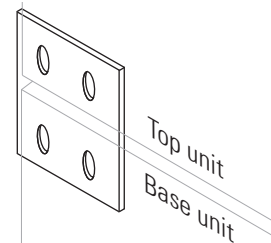

Figure 1-5. Stacking Brackets Installed
3. Align the holes in the brackets with the mounting holes on the sides of the top and bottom incubator. Secure the two brackets with the stainless steel screws and washers provided in the parts bag. See Figure 1-5.